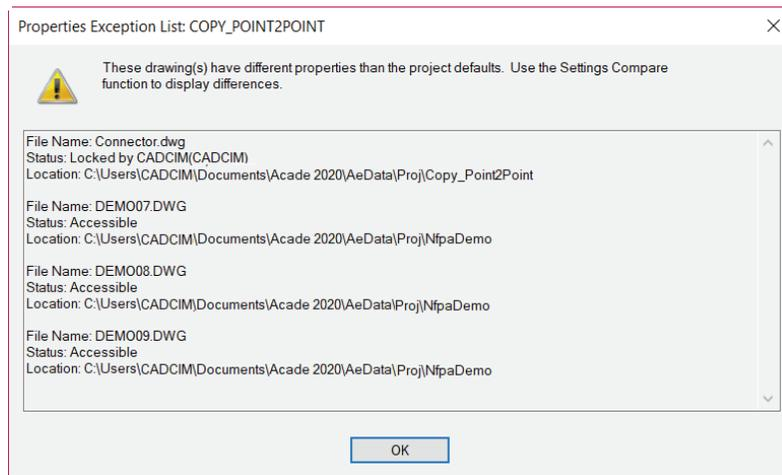

Figure 2-77 The **Properties Exception List: COPY_POINT2POINT** dialog box
1. Right-click on the **Copy_Point2Point** project and choose **Exception List** from the shortcut menu displayed; the **Properties Exception List: COPY_POINT2POINT** dialog box is displayed, as shown in Figure 2-77. This dialog box lists the drawings which have different properties than the project default properties.